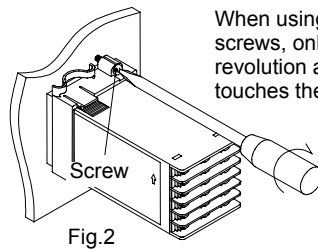

Fig.2
- (5) Fix the instrument to the panel by using the two screws. (Fig.2)